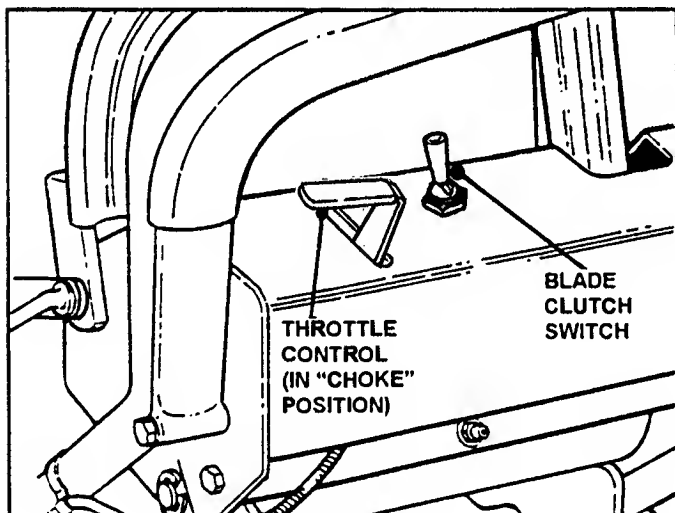

FIGURE 9
- 5. Move Throttle Control Lever to **CHOKE** position. See Figure 9. **NOTE:** Briggs engines have a remote choke located on the left side of tank bracket. Choke is not part of Throttle Control Lever.